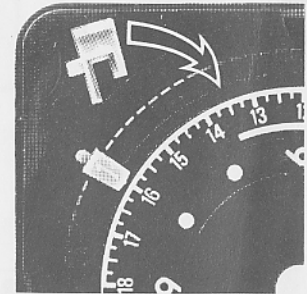

Fig 3
- Fig 3. illustrates tappets being inserted into outer dial — short leg of tappett faces middle of clock.